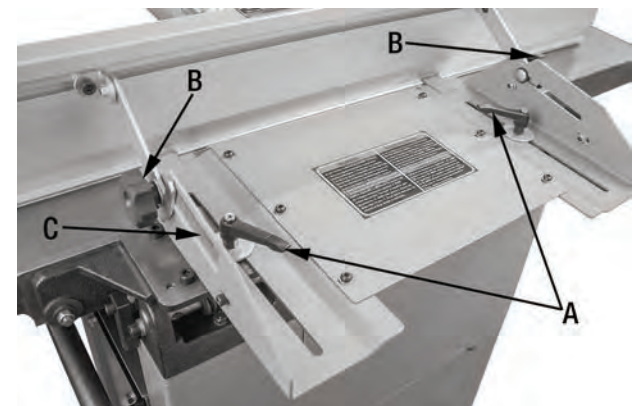

FIGURE 10
- b. Loosen the two fence assembly lock handles (A) Fig.10.
- d. Retighten the lock handles (A) and reposition the cutterhead guard against the fence.
- b. Loosen the fence angle lock knobs (B) Fig.10 and tilt the fence back to the desired angle.
- c. You can also place a beveled workpiece or reference gauge on the table, and adjust the fence angle to match, or use the angle scale (C).
- d. Retighten the lock knobs (B) and reposition the cutterhead guard against the fence.
3. Loosen the two fence assembly lock handles (A) Fig.10 and slide the fence assembly back as far as it will go to clear the table surface.